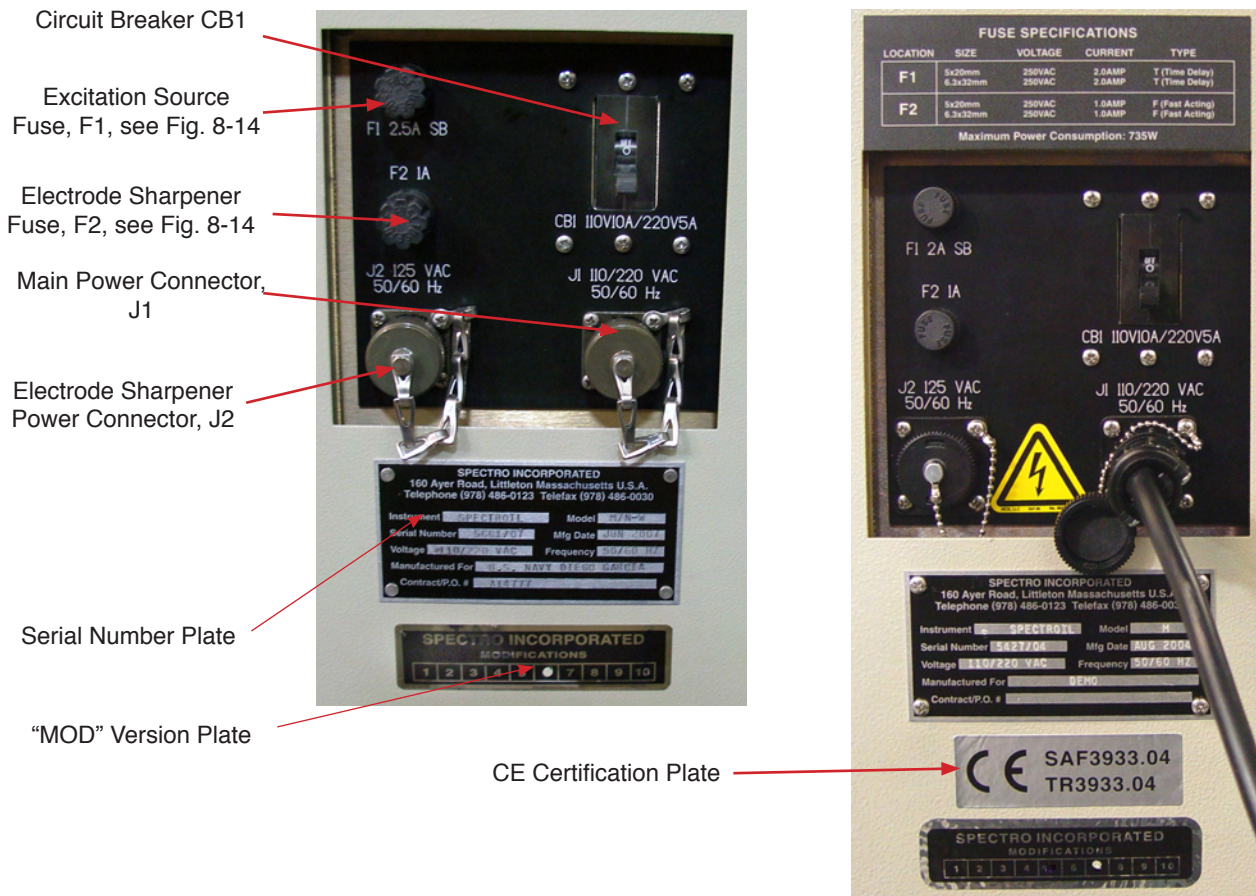

Figure 2-3, Right Side View Showing Input Power Connection Plate for Standard Spectroil M (Left) and CE version of Spectroil M (Right)
12. Refer to Figure 2-3 and attach the male three pin MIL type plug of the electrode sharpener to the mating receptacle labeled J2 125 VAC 50/60 Hz. This connector is located on the power connection plate located on the right side panel near the back of the instrument. This connector is protected with fuse F2.
13. Refer to Figure 2-3 and attach the female MIL type connector for the input main power cable to the mating receptacle labeled J1 110/220 VAC 50/60 Hz. This connector is also located on the power connection plate.
Apply power to the Spectroil M by placing the circuit breaker CB1 in the up position. Refer to Figure 2-3 for identification of CB1. When power is initially applied to the Spectroil M via CB1, the operator can view the loading progress on the video monitor.
2. Refer to Figure 2-3 and remove power from the instrument by placing the main circuit breaker CB1 located on the input power circuit breaker panel to the down (OFF) position.
3. Refer to Figure 2-3 and disconnect the input power plug from the voltage source and disconnect the cable from the connector labeled J1 located on the input power circuit breaker panel. Attach the protective cover to J1.
8. Refer to Figure 2-3 and disconnect the MIL connector labeled J2 which provides power to the electrode sharpener. Attach the protective cover to J2. Wrap the cable around the electrode sharpener and pack in a separate cardboard box.